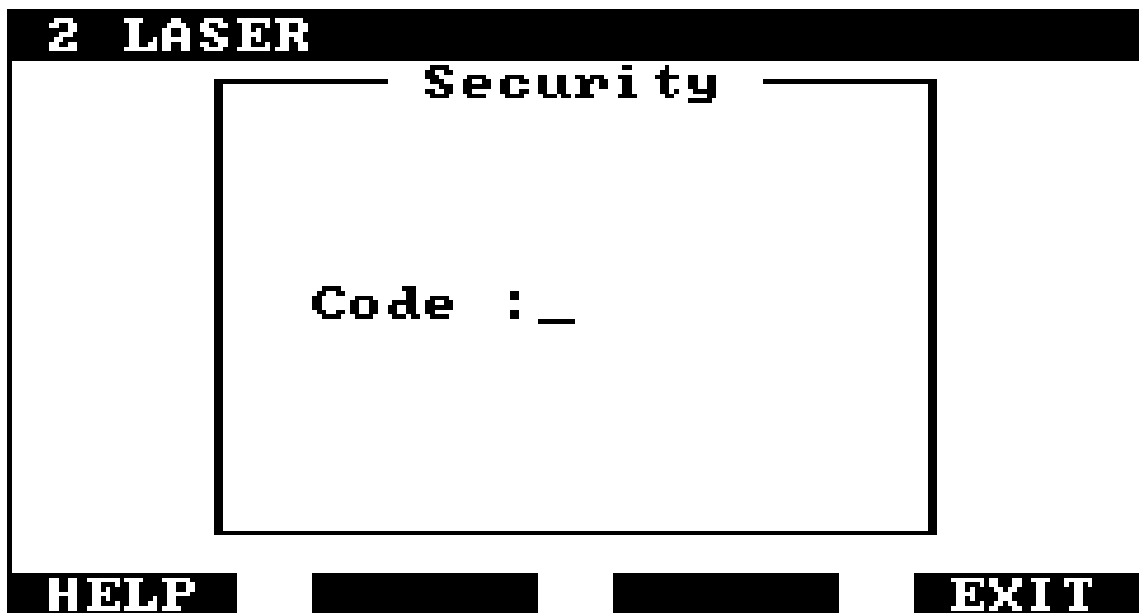

Figure 17 - Laser Security Screen
3. The Medi-Link will run the Laser program and the display will change to show the Laser Security screen (figure 17).